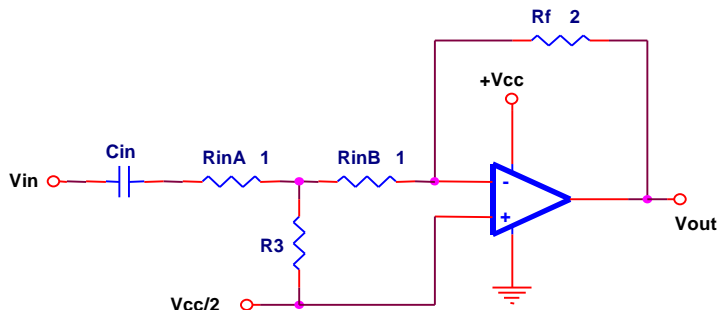

Figure 5. Inverting Attenuation Circuit
which $R_2 < R_1$. This method is not recommended, because many op amps are unstable at gains of less than unity. The correct way to construct an attenuation circuit¹ is shown in Figure 5.
- Multiply the base value for Rf and Rin by 1 or 2, as shown in Figure 5.